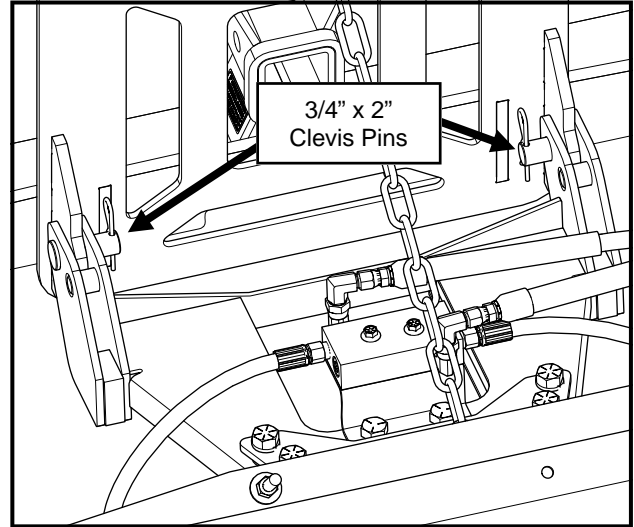

Fig. 9.1—Plow to Lower Mounting Tabs
- 9.1** Place the Plow sub-assembly in front of the mounting plate and align the A-frame tabs to the lower tabs on the mounting plate. Connect the A-frame to the mounting frame with two 3/4" x 2" clevis pins and secure with the larger hairpin cotter pins. See Fig 9.1.